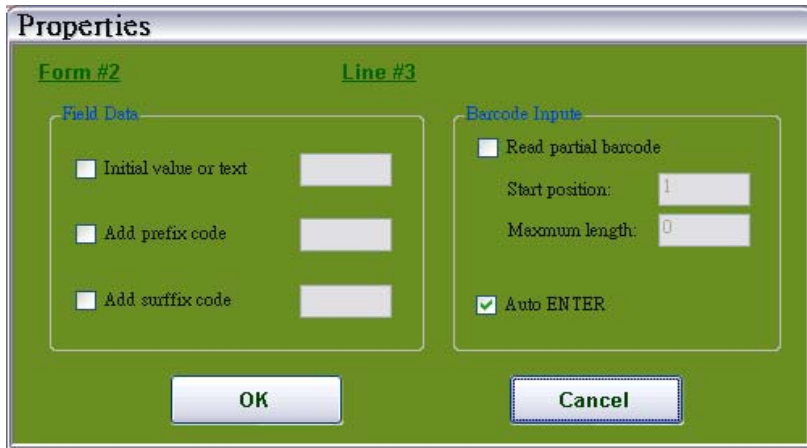

Figure 26
- Properties: please refer to the figure 26